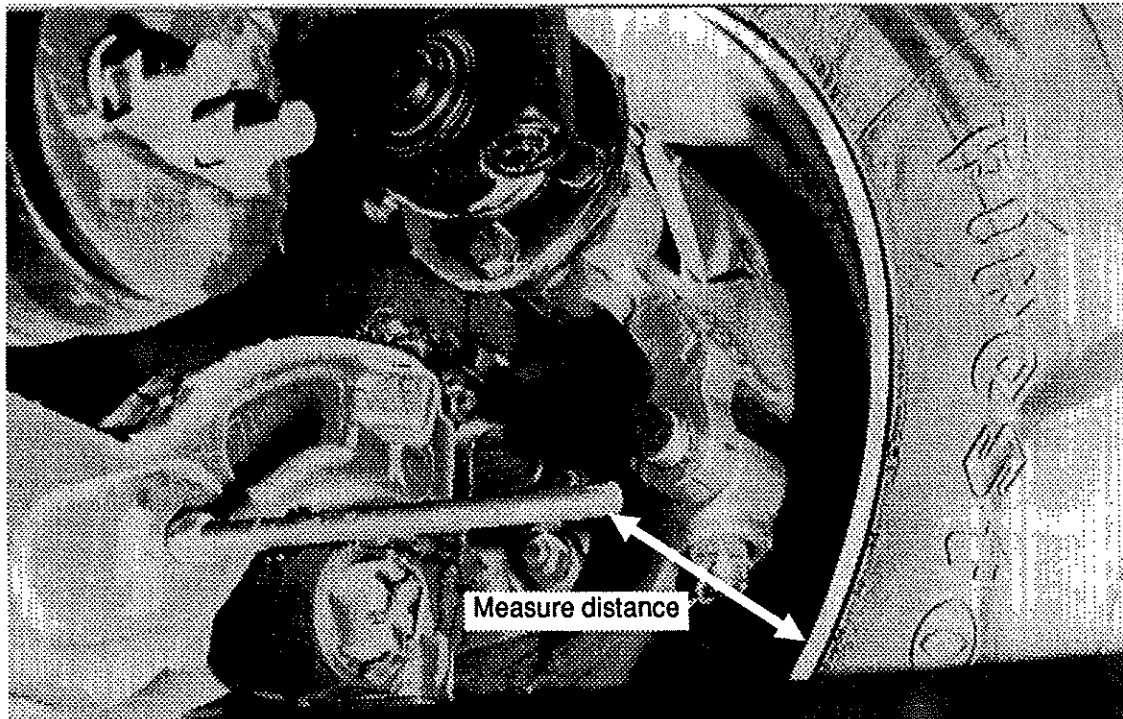

Fig. 3 - Pin installation on axle
6. Position wheels perpendicular to axles by placing pins on axle (see fig. 3); measure the distance between pin and rims on each side. The distance should be the same on each side. If not, adjust distance by pushing inside or outside of tires as required. For example, if the distance on one side is 7 1/4" and is equal to 7" on the other side, the final reading should be 7 1/8" on each side.